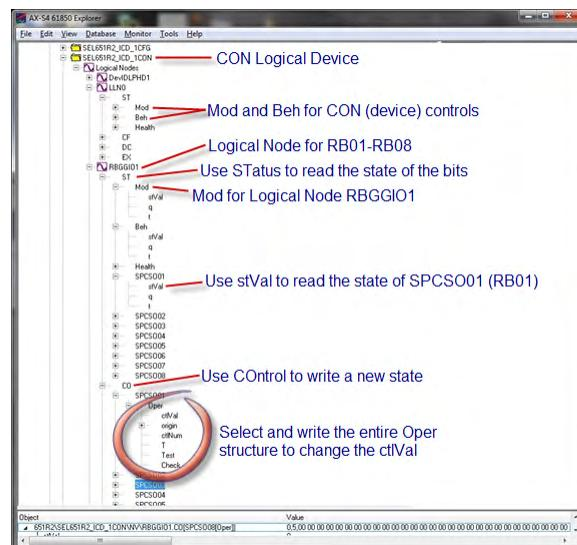

Figure F.8 MMS Client View of the CON Logical Device With SBO With Enhanced Security CDC
To control CDCs with SBO with Enhanced Security models, the client must select and write the entire SBOw, Oper, or Cancel structure to the relay. See *Figure F.8* for the attributes of the CON Logical Device and ST and CO functional constraints (FC) of LN RBGGIO1 used for controls of RB01 through RB08.